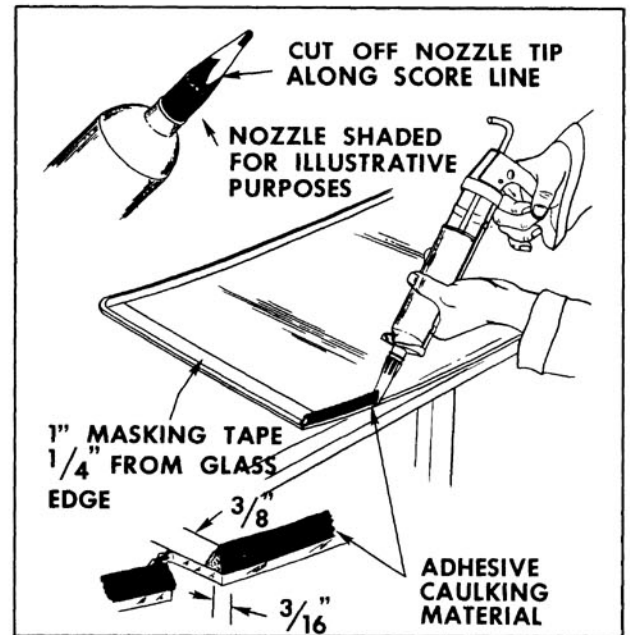

Fig. 16-469 Adhesive Caulking
10. Beginning at a lower corner of glass, apply 1" masking tape to inside surface of glass 1/4" inboard from outer edge, up both sides and across top. (Fig. 16-469) Do not apply tape to bottom edge of glass.
13. Cut off tip of one nozzle along score line. (Fig. 16-469) This nozzle will be used to apply bead of adhesive caulking material to glass. Cut tip off other nozzle at a 45° angle 1" below end of nozzle. This nozzle will be used to apply "smear bead" of adhesive caulking material to pinchweld flange.
17. Positioning the gun and nozzle as shown in Fig. 16-469, carefully apply a smooth continuous bead of caulking material 3/8" high by 3/16" wide at base completely around inside edge of glass. When material in first tube is dispensed, quickly insert second tube and continue application of bead. After application, check bead and fill all voids and air bubbles.